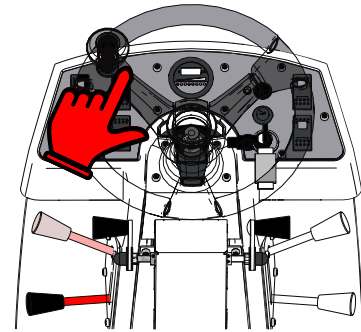

Fig. 35
- Operate the Sweeping Roller in I position (Fig. 35) - both Sweeping Rollers rotate.
- The Sweeping Roller can now be lowered for sweeping. (Fig. 35)